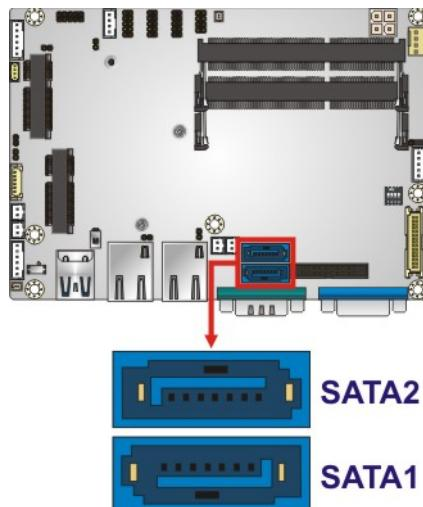

Figure 3-21: SATA 6Gb/s Connector Locations
**CN Location:** See **Figure 3-21**